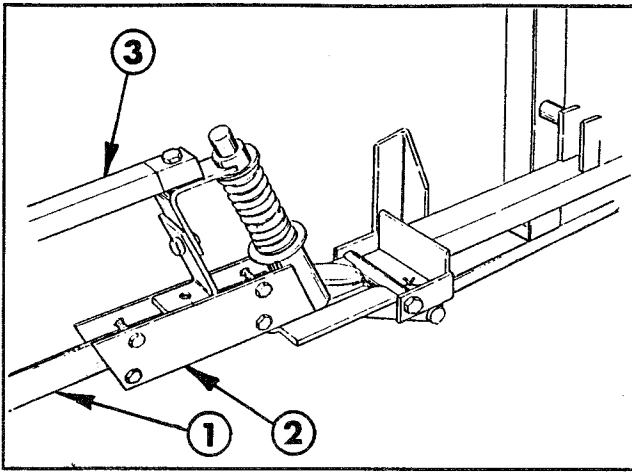

FIG. 14
50. Insert the plugged end of an extension boom pipe into the pivot assembly and secure with (4) 1/4" x 1-1/4" hex hd. cap screws and locknuts. Repeat on the opposite side to assemble the other extension boom (FIG. 14).
51. Attach the boom support assembly to the pivot assembly, using a 5/16" x 1-1/2" screw and locknut (FIG. 14).